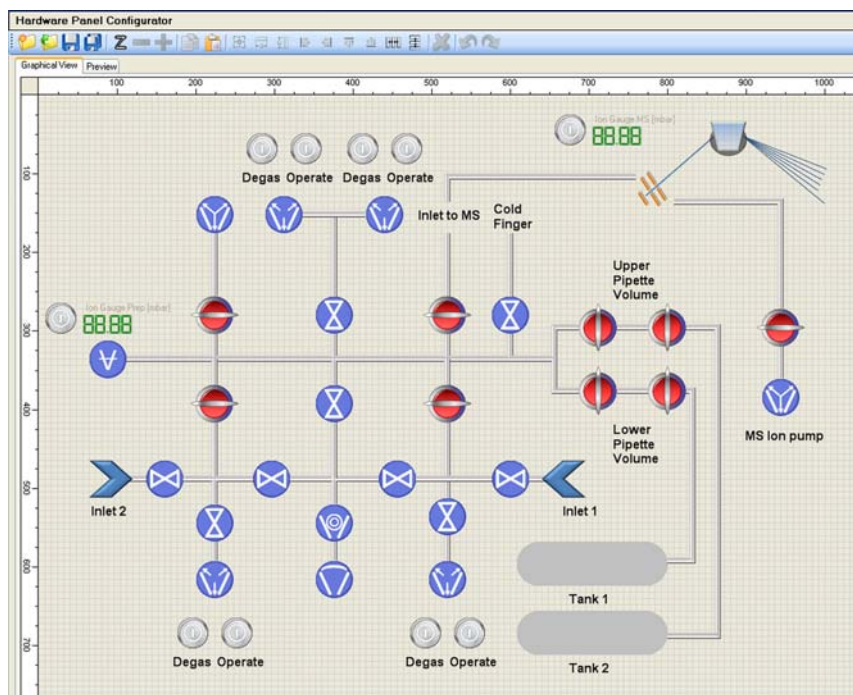

Figure 3-35. Example for a Graphical View of a configuration
2. In order to get the configurator into the state as in Figure 3-35, open the existing *NGPrepBench* panel.
4. After loading the configuration, the Hardware Panel Configurator shows a Graphical View, see Figure 3-35.